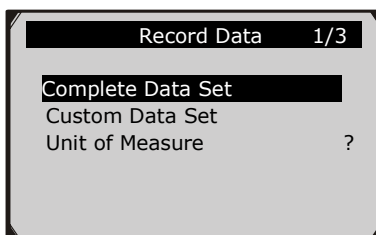

Figure 5.20
- 1) To record customized data, use the **UP/DOWN** scroll button to select **Custom Data Set** from **Record Data** menu and press the **OK** button. (Figure 5.20)